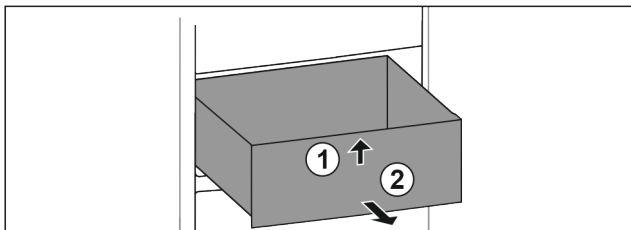

Fig. 68
- Lift up drawer at the front. Fig. 68 (1)
- Remove drawer to the front. Fig. 68 (2)